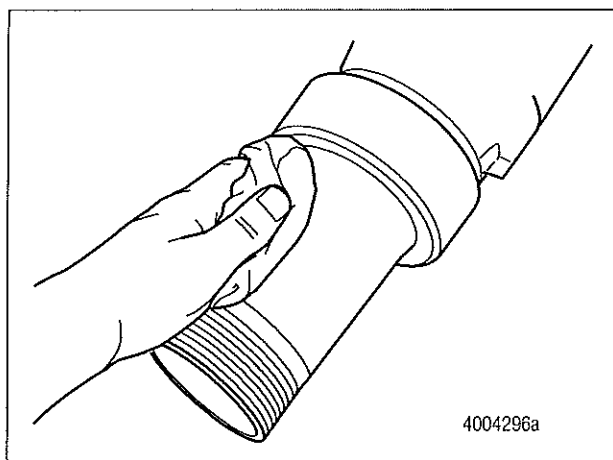
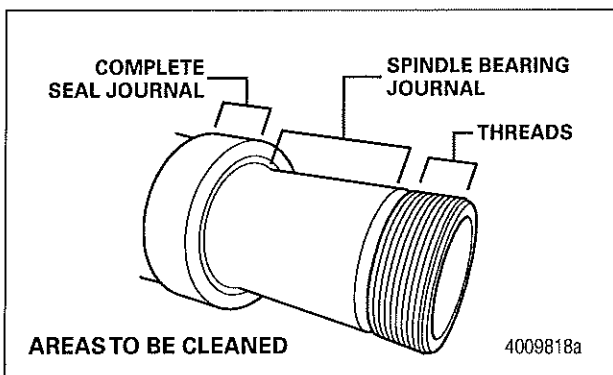

Figure 10
Figure 11
1. Clean the axle spindle and oil seal journal by wiping with a clean rag and using solvent. If needed, these areas can be cleaned using emery or crocus cloth. Do not use pneumatic or electric power tools. Figure 10 and Figure 11. Figure 12 and Figure 13 are before and after cleaning examples.
6. Check and clean the spindle threads. Figure 11.